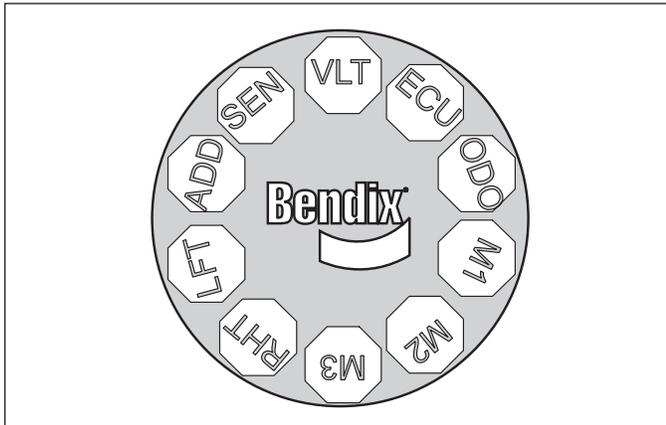

Figure 13 – The Bendix® TRDU™ Tool Display
If the ABS ECU has at least one (1) active DTC, the TRDU tool displays the first DTC by illuminating the red LEDs, indicating the malfunctioning ABS component and its location on the vehicle. See Figure 13.